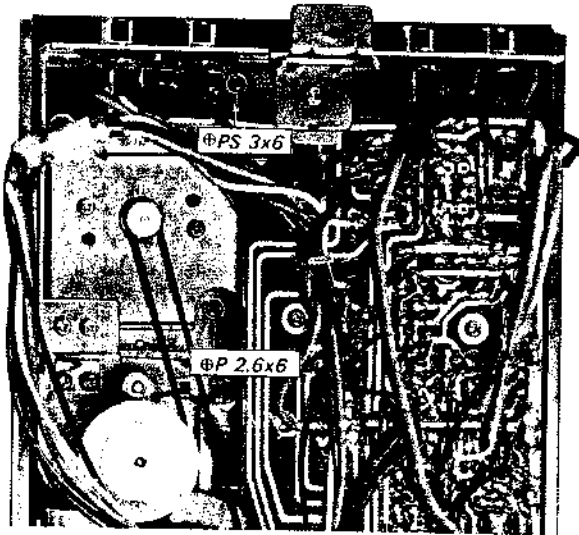

Fig. 2-3 Top cover removal (1)
1. Remove the two screws ($\oplus PS 3 \times 6$, $\oplus P 2.6 \times 6$) from the bottom of the chassis. See Fig. 2-3.